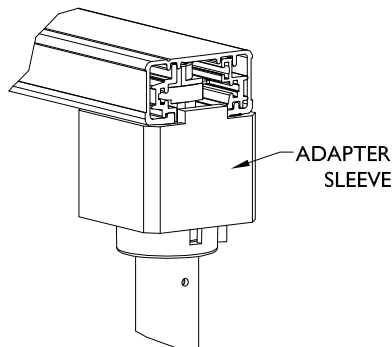

FIG. 5
3. Rotate ADAPTER (2) CONTACTS in direction of GROOVE until ADAPTER SLEEVE snaps into track. FIG. 5